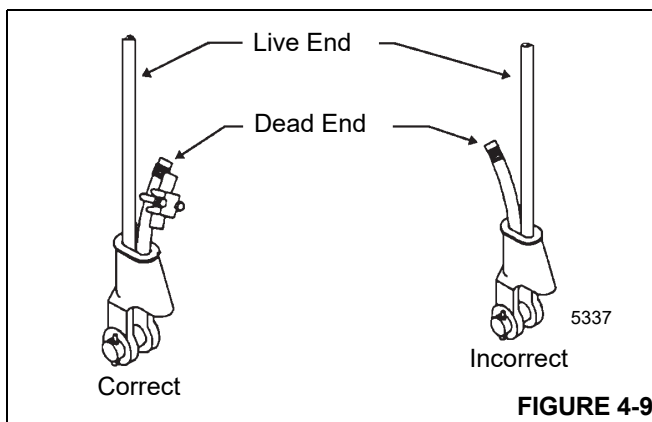

FIGURE 4-9
3. Make sure live end side (Figure 4-9) of rope is directly in line with ears of socket and direction of pull to which the rope will be subjected. If rope is loaded into socket incorrectly, under a load the rope will bend as it leaves the socket. The edge of the socket will wear into the rope causing damage and eventual failure.